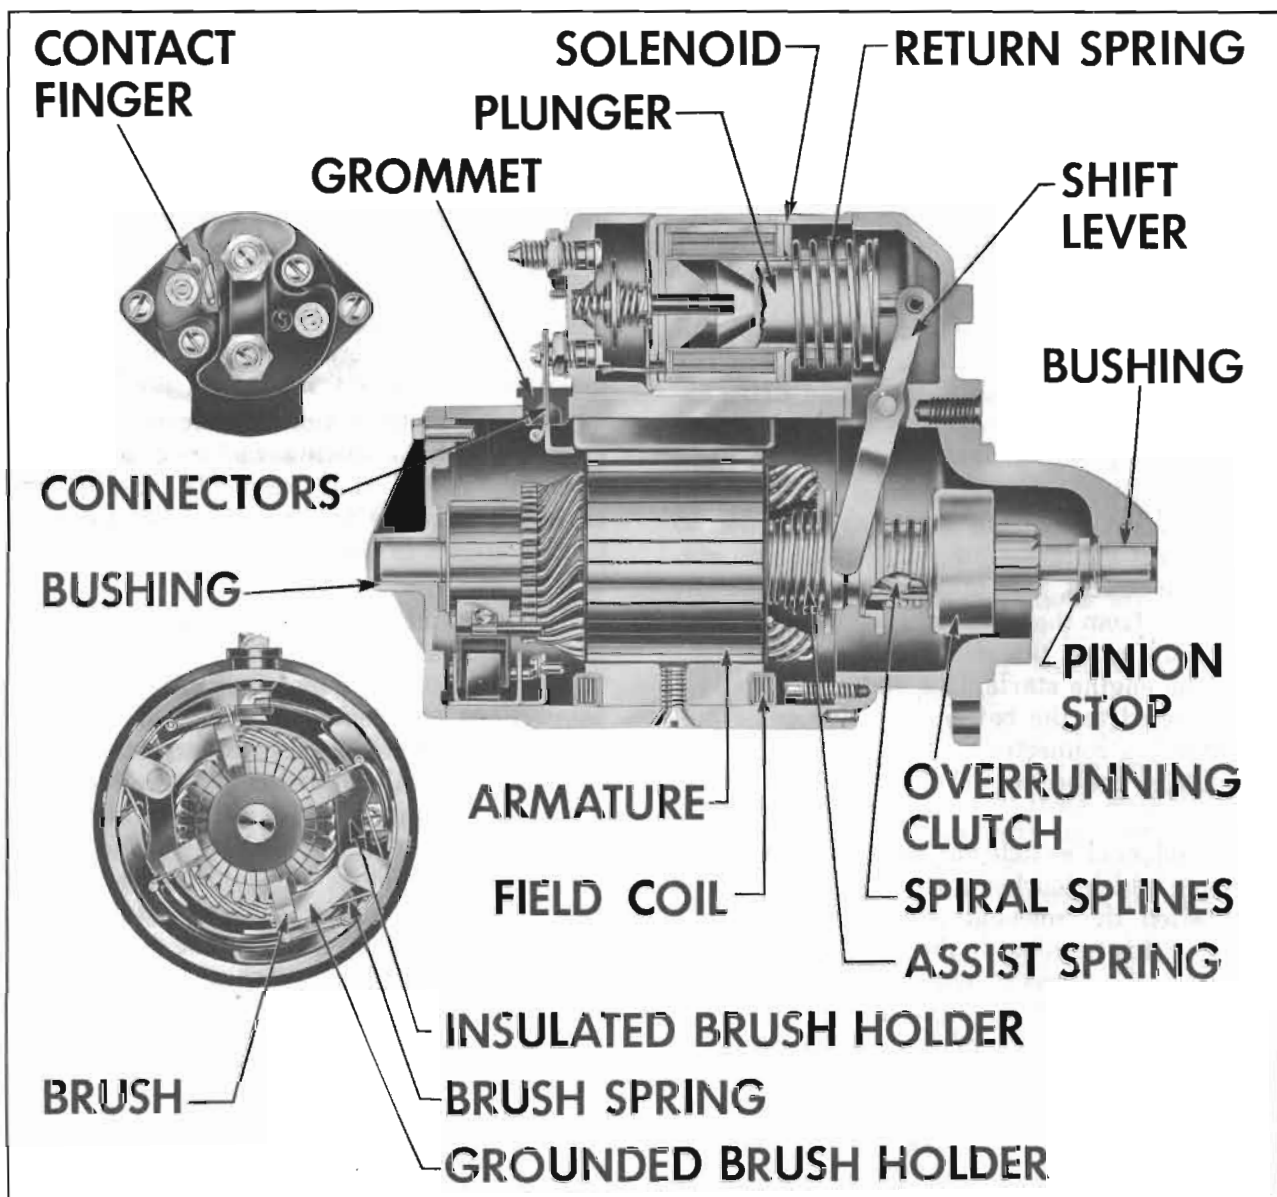

Figure 10-30—Cranking Motor—Sectional View
The cranking motor assembly consists of a motor, drive assembly, shift lever, and solenoid switch. See figure 10-30. It is mounted on the flywheel upper housing on the left side of engine.
The drive assembly pinion is moved into engagement with flywheel ring gear by action of the solenoid upon the shift lever, which engages the shift collar of drive assembly. The shift collar moves the drive assembly by pushing on the clutch spring, which serves as a cushion in case the pinion and gear teeth butt instead of meshing. The helical splines assist in obtaining proper pinion engagement. The drive pinion is pulled out of engagement, after engine starts, by action of the shift lever return spring. The shift lever is connected to the solenoid switch plunger by a link and adjusting screw. See figure 10-30.
The solenoid section of the switch has a plunger and two windings, the "pull-in" winding and the "hold-in" winding. Together, they provide sufficient magnetic attraction to pull the solenoid plunger into the solenoid. The plunger actuates the shift lever and drive assembly and it also closes the solenoid switch contacts by pressing against a push rod upon which a contact disk is mounted between two coil springs. One spring serves as a cushion to insure firm contact of the disk with two stationary contacts. The other spring pushes the disk away from the stationary contacts to break the circuit when the solenoid is demagnetized after the engine starts. One stationary contact is connected to the battery positive cable and the other is connected to the motor windings through a connector or bus bar. See figure 10-30.
1. Remove screw from solenoid motor terminal and bend field leads slightly until clear of terminal. Then ground solenoid motor terminal with a heavy jumper wire. See figure 10-30.
2. Connect a 12-volt battery, a variable resistance, and an ammeter of 100 amperes capacity in series with solenoid "S" terminal. See figure 10-30 for location of "S" terminal. Connect a heavy jumper wire from solenoid base to ground post of battery.
When it is necessary to disassemble cranking motor for any reason, make a complete clean-up and inspection to make sure all parts are in satisfactory condition. See figure 10-30 for identification of parts.
6. Remove two screws holding solenoid to drive housing and remove solenoid. Remove small nut and insulating washer from the solenoid "S" terminal. Remove large nut and insulating washer from the solenoid battery terminal. See figure 10-30. Then remove two screws that attach switch cover to solenoid